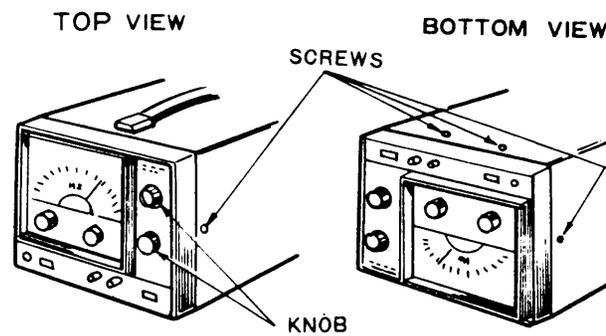

Fig. 13. Removing front panel.
4. REMOVAL OF FRONT PANEL (See Fig. 13)